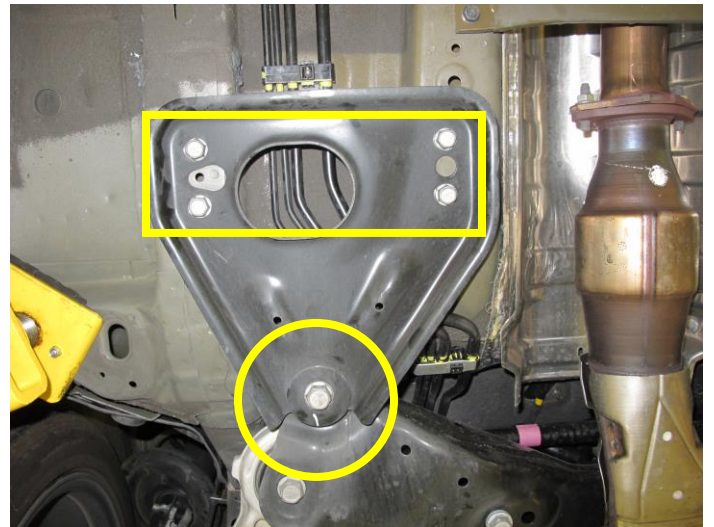

Figure 13
13. Rotate the Front Suspension Member Stay back into place (Figure 13).